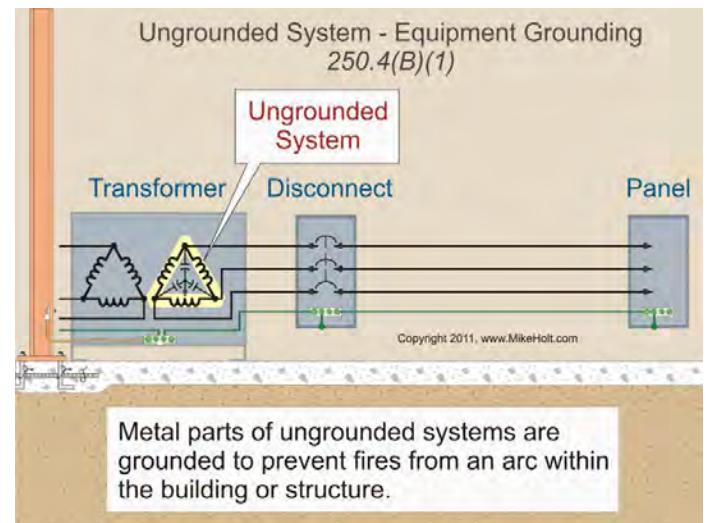

Figure 250-24
(1) Equipment Grounding. Metal parts of electrical equipment are grounded (connected to the earth) to reduce induced voltage on metal parts from exterior lightning so as to prevent fires from an arc within the building/structure. **Figure 250-24**